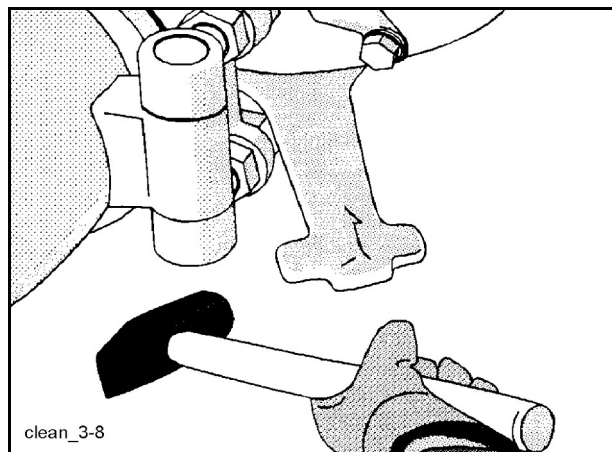

Fig. 128 Open cleaning flap
- Open the cleaning flap (**Fig. 128**) under the rock valve housing.